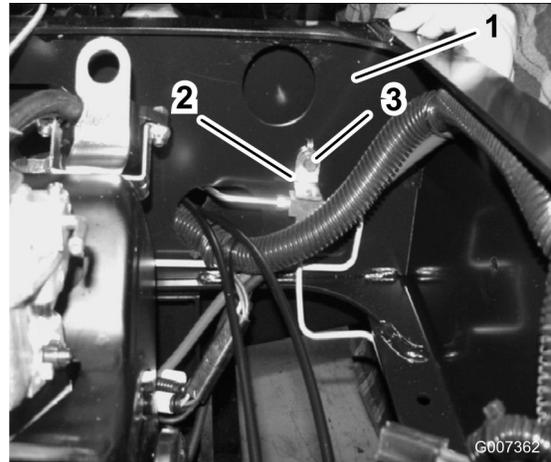

Figure 14
- 10. Install the “Tee” (87-3560) connection to the front right corner of the rear frame with a screw (1/4 x 1/2 inch) (Figure 14).